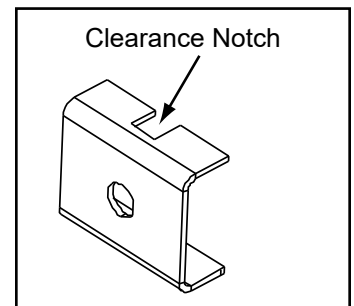

Figure 23.3
- e. Each clip has a clearance notch to allow room for the cast on the boss. Place the clips over the boss so that the notch is facing the outer edge of the surround (**Figure 23.3**).